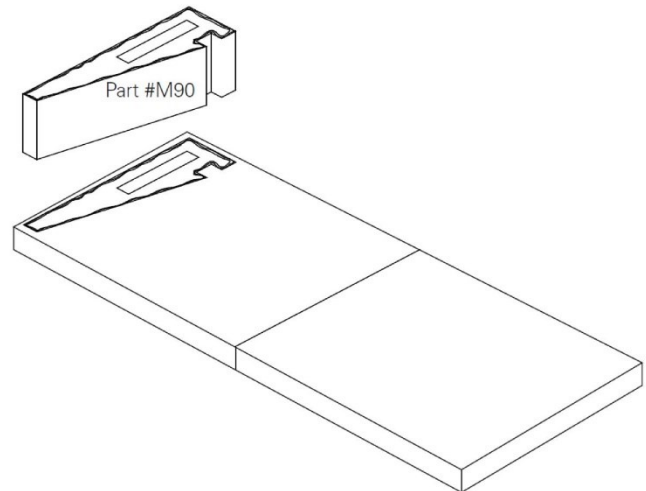

FIGURE 28
2. Set the first course of the firebox side walls and back walls into place. **(Figure 28 and 29)**